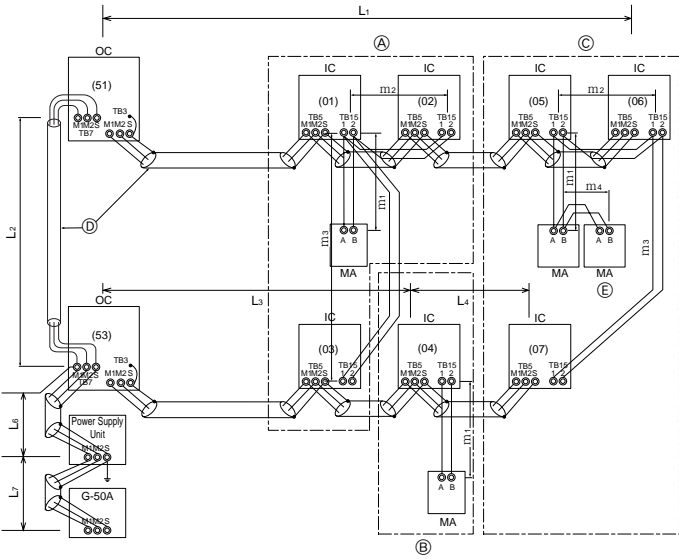

Fig. 6-3
■ MA Remote Controller (Fig. 6-3)